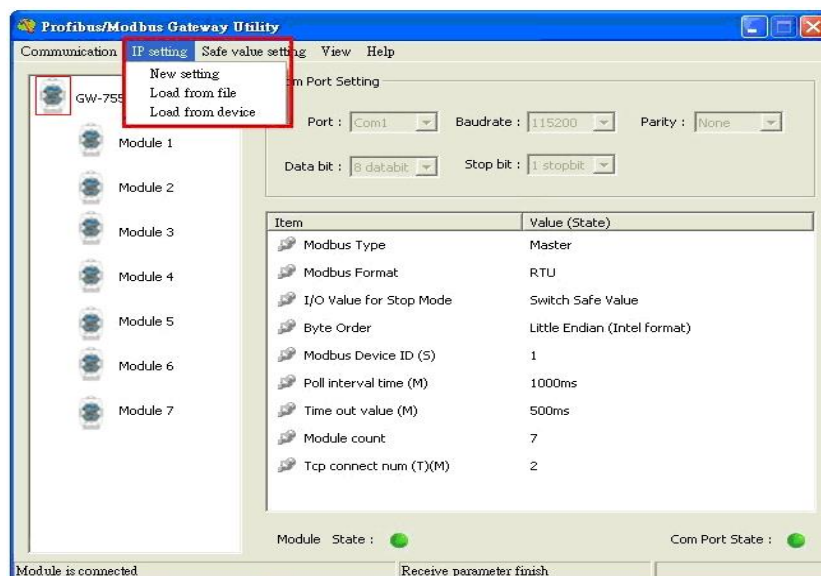

Figure 102 The menu of IP setting
There are 3 kinds of IP setting. They are (1) Open a new setting 、(2)Load from file 、(3)Load from device, as shown in *Figure 102*.